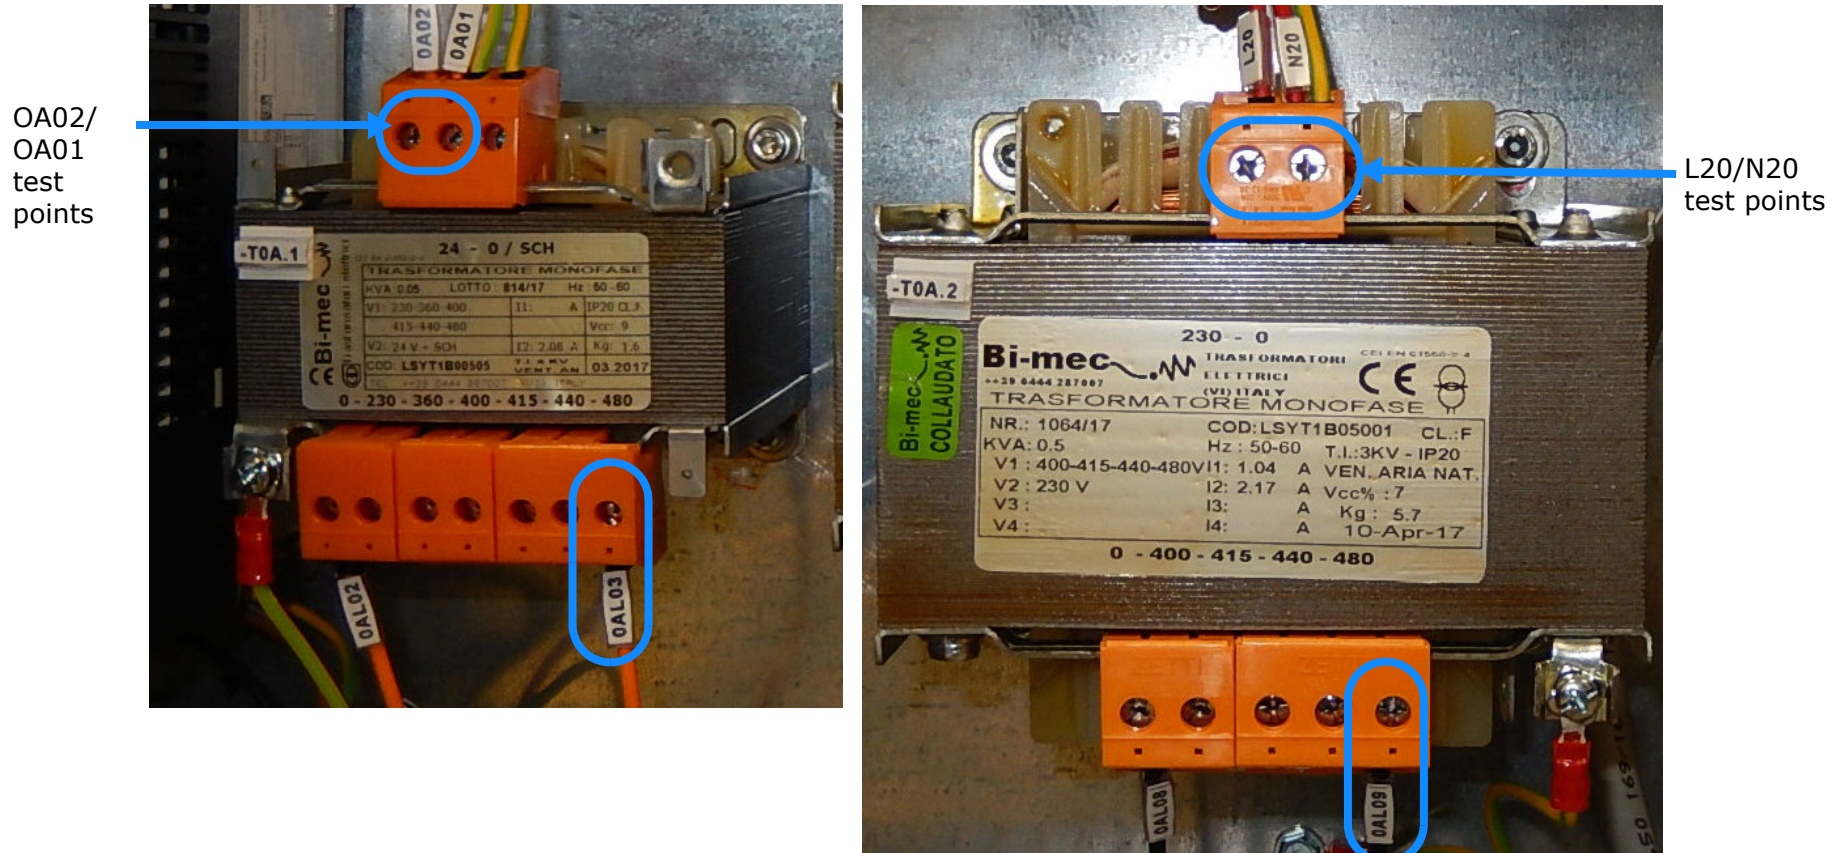

Figure 1-18: T0A.1 and T0A.2 Transformers
1. **T0A.1:** Match **0AL03 wire position** (circled in Figure 1-18) to **incoming facility voltage**. The factory setting is 480v.
2. **T0A.2:** Match **0AL09 wire position** (circled in Figure 1-18) to **incoming facility voltage**. The factory setting is 480v.